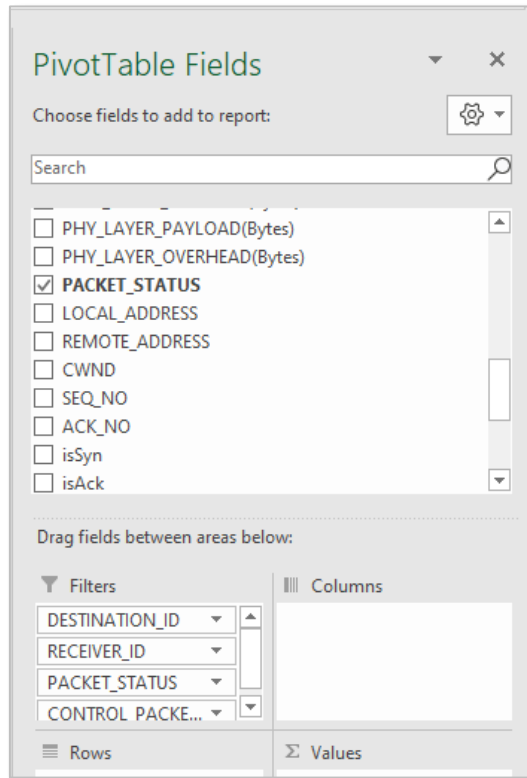

Figure 8-47: Added Selected fields to Filter
- Drag and drop DESTINATION_ID, RECEIVER_ID, PACKET_STATUS and CONTROL_PACKET_TYPE/APP_NAME to FILTERS field shown below Figure 8-47.